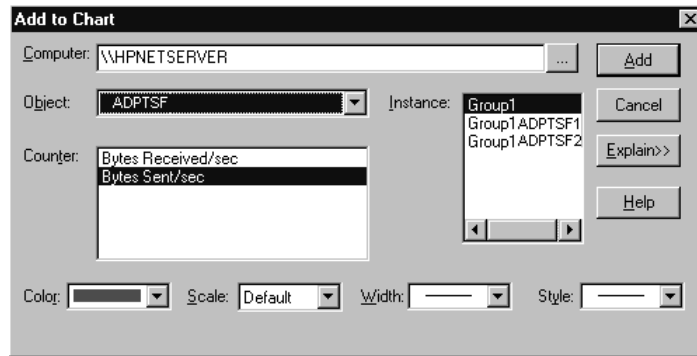

Figure 9-20. Add to Chart Window
- 2 In the Performance Monitor, click the **Add** tool button to enter the Add to Chart window, shown in Figure 9-20.